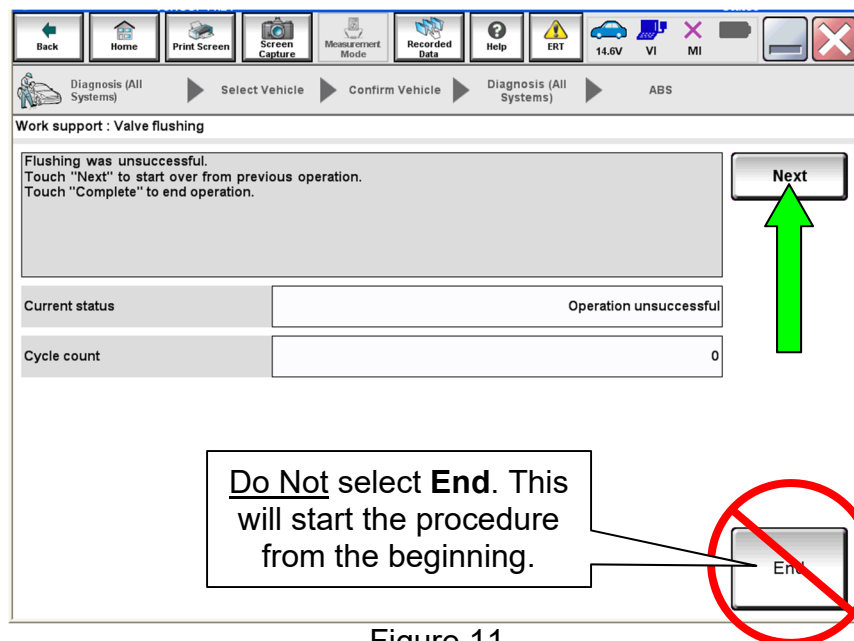

Figure 11
- If the pressure is outside this range, an error will occur as shown in Figure 11.